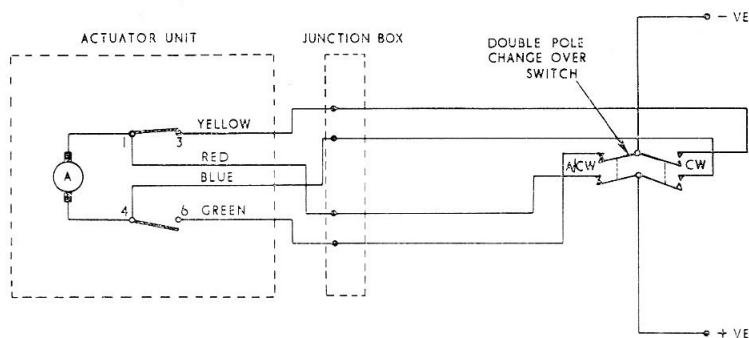

Fig. 1. Circuit diagram
2. Electrical connections are made to this actuator by way of a four-pole Plessey plug UK-AN(ET)-5000-14S-2P, and connected externally as shown in fig. 1.